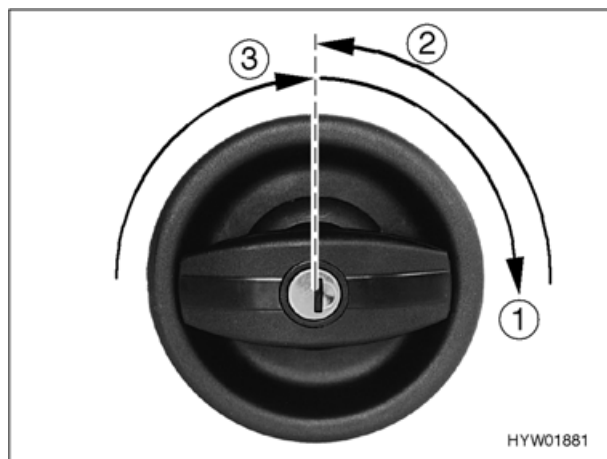

Fig. 10 Door lock of conversion door, outside, opening
- Insert the key into locking cylinder and turn in a clockwise direction (Fig. 10,1) until the lock is unlatched.
- Return the key to the central position (Fig. 10,2) and remove it.
- Turn the door knob in a clockwise direction (Fig. 10,3) until the lock of the door is unlatched.